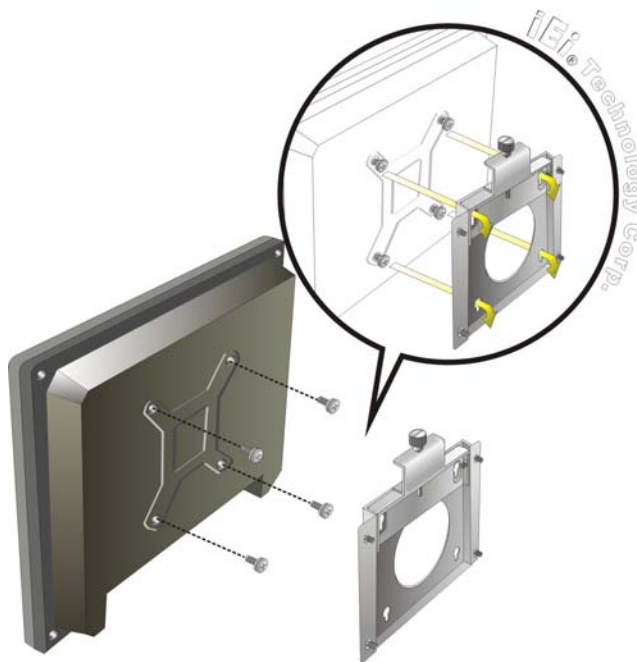

Figure 2-12: Chassis Support Screws
- Step 6:** Insert the four monitor mounting screws provided in the wall mounting kit into the four screw holes on the rear panel of the panel PC and tighten until the screw shank is secured against the rear panel (**Figure 2-12**).
Step 8: Carefully insert the screws through the holes and gently pull the monitor downwards until the monitor rests securely in the slotted holes (**Figure 2-12**). Ensure that all four of the mounting screws fit snugly into their respective slotted holes.